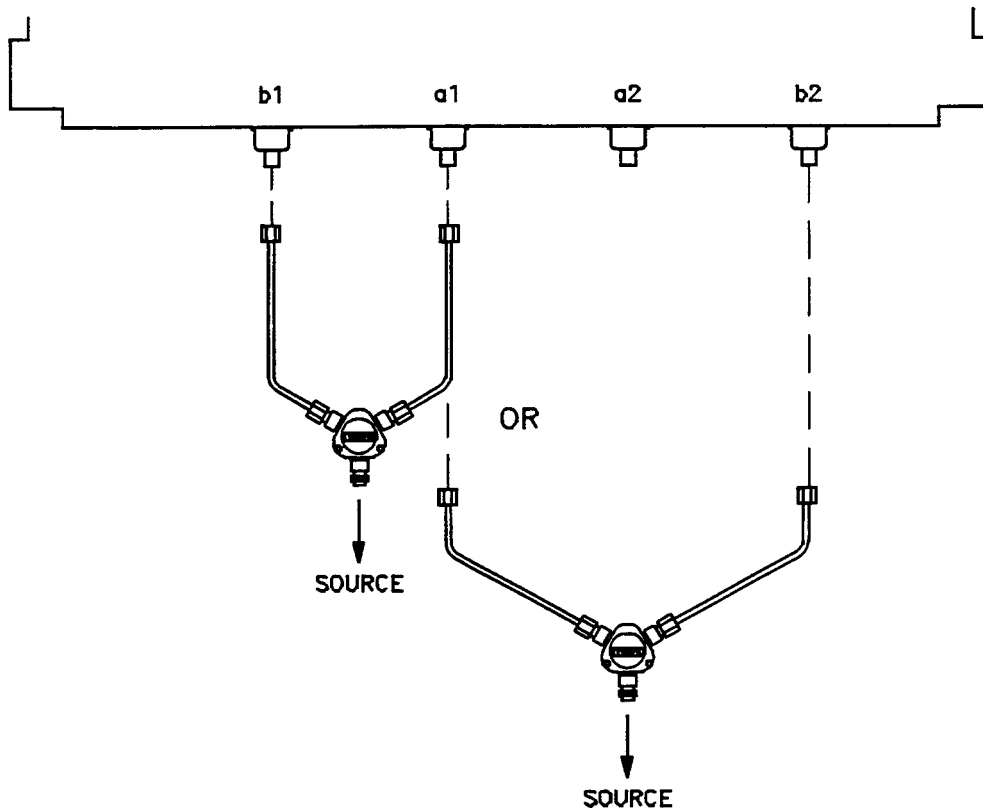

Figure 4-3 Hardware Configuration for Operator's Check
- Loosely connect the RF source cable to the power splitter as shown in Figure 4-3 below. Connect the other end of the RF source cable to the output of the source. Rotate the semi-rigid cables to the required position for connection to ports a₁ and b₁. Tighten all connections.